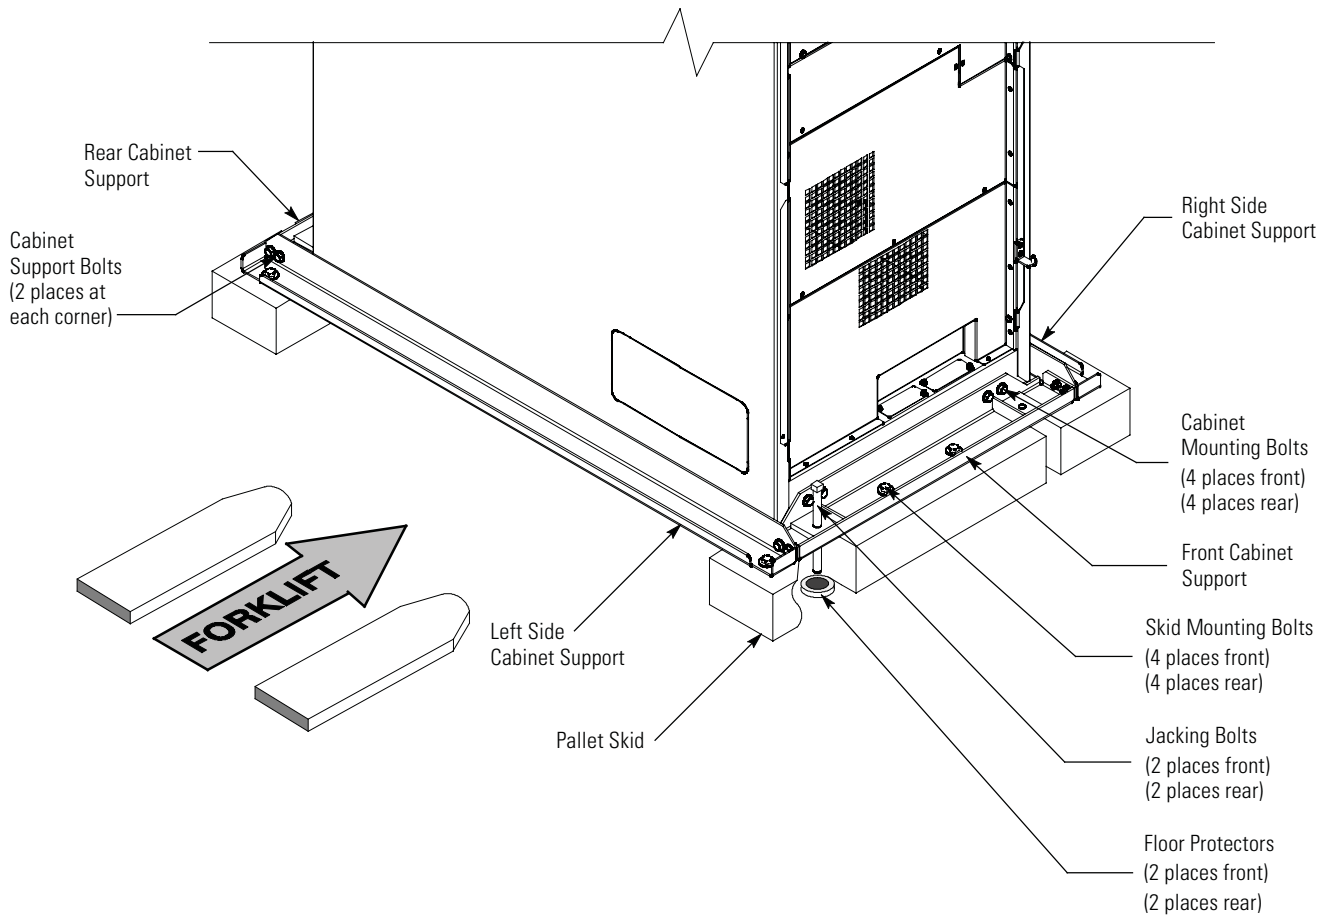
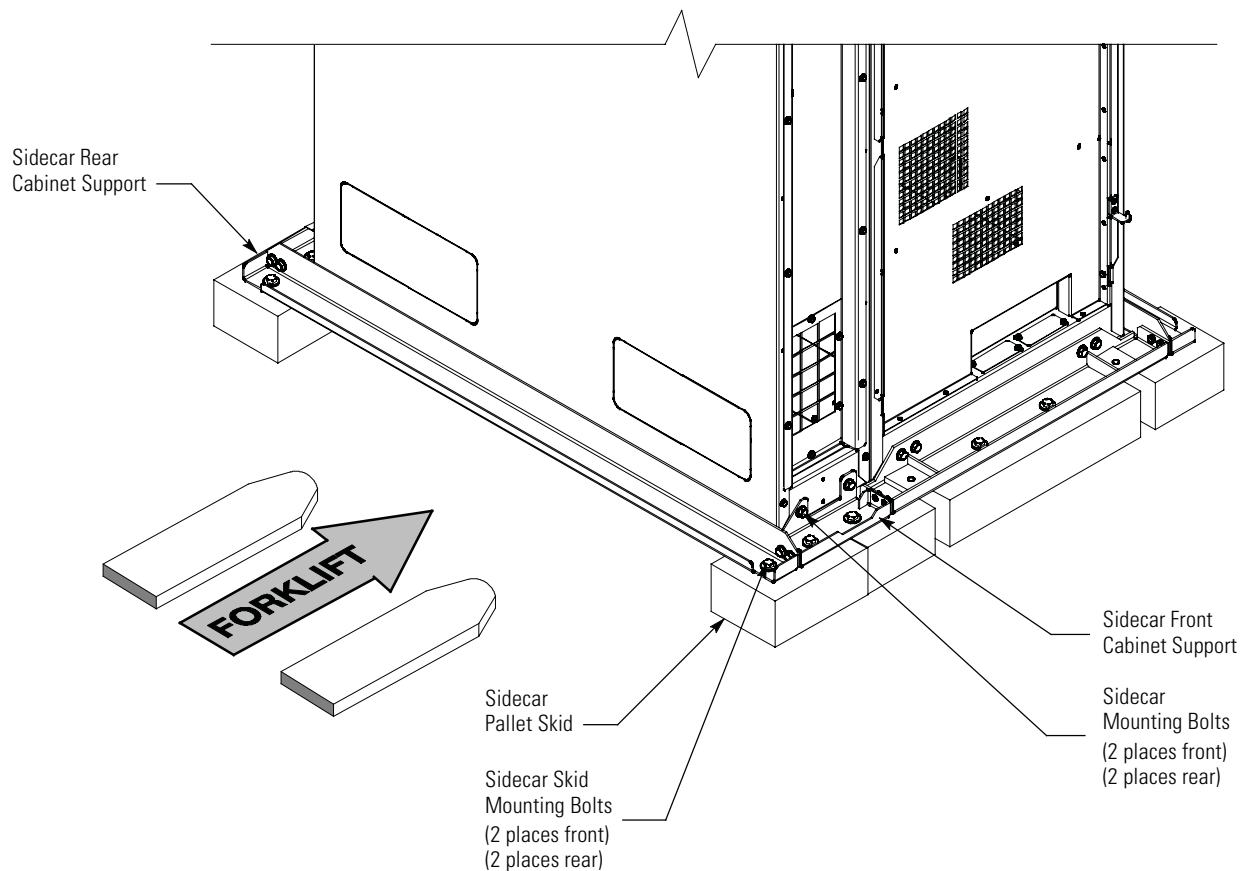

Figure 4-1. Removing the Pallet Skids and Supports – Eaton 93PM UPS
Figure 4-2. Removing the Sidecar Pallet Skids and Supports – Eaton 93PM UPS
3. Locate the four 1/2" jacking bolts from the parts kit and install them in the threaded holes in the front and rear supports as shown in Figure 4-1. Place a floor protector from the parts kit underneath each jacking bolt, and screw the bolts down against them.
4. Loosen, but do not remove, the skid mounting bolts holding the pallet skids to the front and rear supports, and to the left and right side supports (see Figure 4-1).
5. If a sidecar is attached to the UPS, loosen, but do not remove, the sidecar skid mounting bolts holding the sidecar pallet skids to the sidecar front and rear supports, and to the left and right supports (see Figure 4-1 and Figure 4-2).
12. Remove the cabinet support bolts fastening the front, rear, and side cabinet supports together and remove the side supports (see Figure 4-1).
14. If a sidecar is attached to the UPS, remove the sidecar mounting bolts holding the front and rear sidecar supports to the cabinet base (see Figure 4-2).
15. Remove the cabinet mounting bolts holding the front and rear supports to the cabinet base (see Figure 4-1).